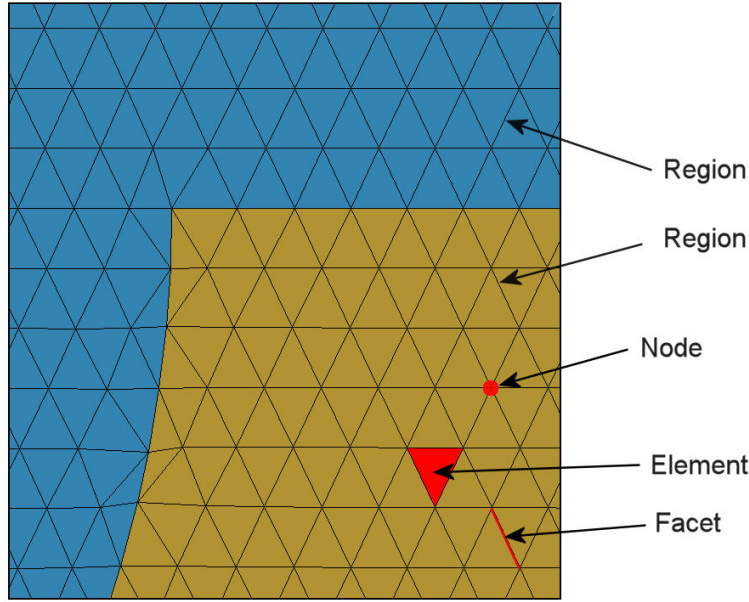

Figure 1: Conformal triangular mesh – definition of terms.
The basis of the finite-element approach is to divide the full solution volume into a number of small volumes, or *elements*. Here, the term *small* indicates that element dimensions are much less than the scale length for variations of field quantities. The division of the volume is called the *computational mesh*. Figure 1 shows the type of mesh used for the two dimensional solutions of **EStat**. The figure defines three terms that will be used throughout this manual:
The elements in Fig. 1 have triangular cross-sections. In a planar solution, the cross-section lies in the  $x$ - $y$  plane and the elements extend an infinite distance in the  $z$  direction. In a cylindrical solution, an element is a figure of revolution about the axis with a triangular cross-section in the  $z$ - $r$  plane.
The mesh in Fig. 1 has the important property of *conformality*. The term means that the triangles have been specially shaped to conform to the boundaries between materials (*regions*). As a result, each element has an unambiguous material identity. The finite-element method is
- **Mesh** analyzes the boundary specifications and automatically generates a set of conformal triangles such as those of Fig. 1. The program creates an output file that lists the locations of nodes and the identities of elements.